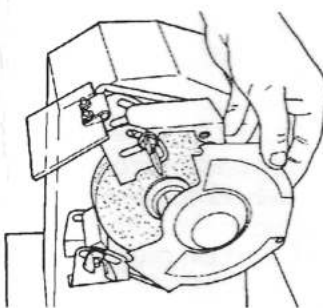

Fig. 32
4. Remove the cover (2) from the guard, as in Fig. 32.
5. Use a 5/32" Allen wrench to loosen the arbor setscrew (11).